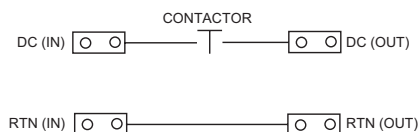

Figure 3. Simplified Schematic Diagram
9.1 Figure 3 shows a simplified diagram of the LVD1U200 circuit.